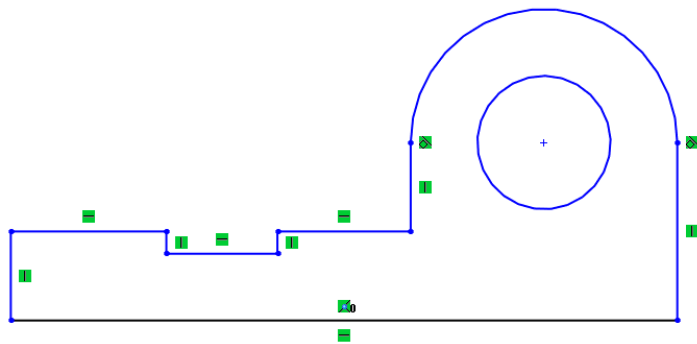

Figure 2-67 Final sketch for Tutorial 3
- 18. Choose the **Zoom to Fit** button from the **View (Heads-Up)** toolbar to fit the sketch into the screen. This completes the outer loop of the sketch. The sketch after drawing the outer loop appears, as shown in Figure 2-67.
The final sketch for Tutorial 3 is shown in Figure 2-67.